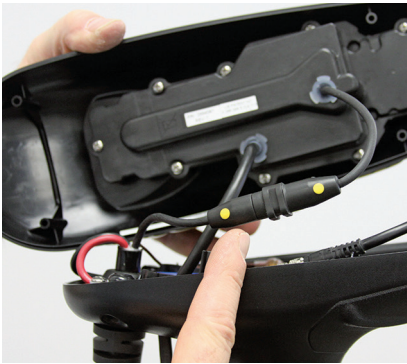

FIGURE 6
6. Plug the i-Pilot Link controller connector into the accessory connector as shown. (Figure 6) Be careful to orient connector properly prior to pushing together. The plug will click twice when pushing it together and the yellow end will be fully covered when installed properly.